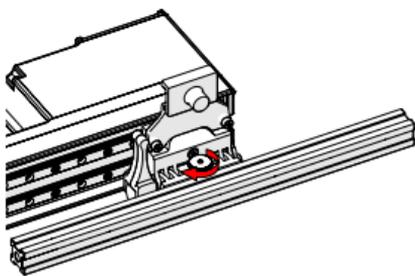

Fig. 143 - Mount frame bar
5. Mount a frame bar to the raster arm pivot nose (*Fig. 143*).